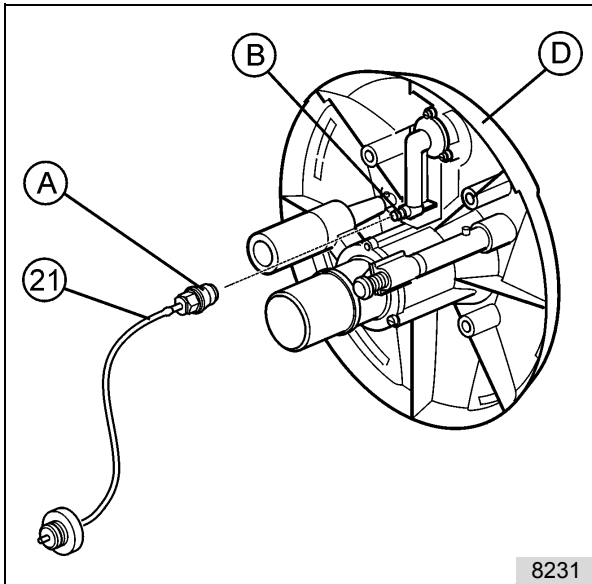

fig. 24
After connecting the air button, put on the face plate assembly (35/35.1), this allows the pressure connection and air connection to slide into one another (refer to fig. 24). Fasten to the clamp ring (72) with the screws (90).